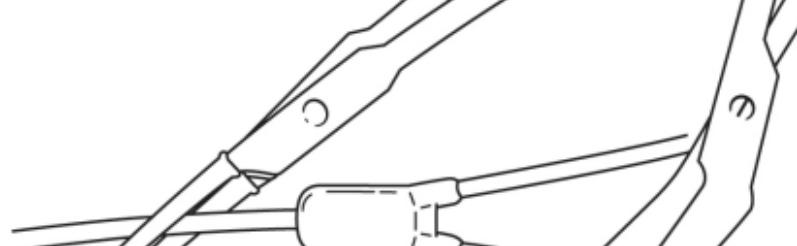

Fig. 11
2. Cut off the damaged portion of the extension tubing, leaving enough of the tubing so that it can be repaired. (Fig. 11)